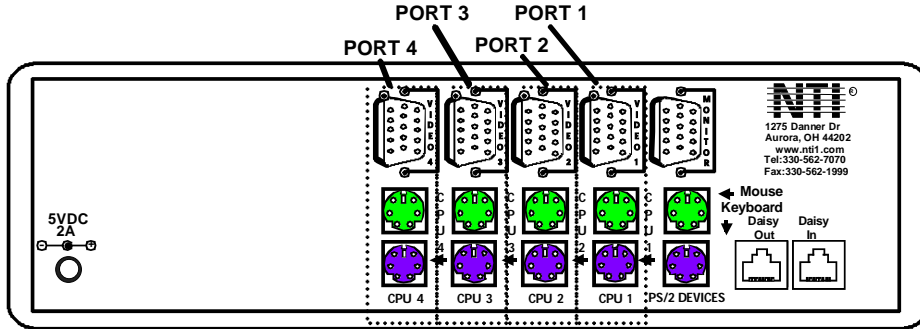

Figure 8- Connections grouped by port number
- b. With another RMT extension cable, connect slave #1's "DAISY OUT" port to slave #2's "DAISY IN" port. (See Fig. 8 below.)
NOTE: The “port” mentioned in the “Command Functions” above refers to the combination of the video (VIDEO x), mouse and keyboard (CPU x) of like numbers that a CPU is connected to (i.e. the CPU that is connected to VIDEO 1 and CPU 1 will be identified as Port 1 or P01). (See Fig. 8 on page 9.)